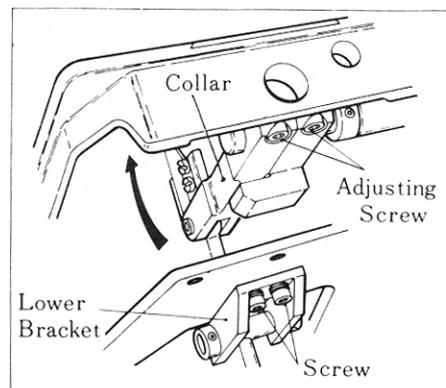

Figure 3
3. Center Knife Side Adjustment (Figure 3)